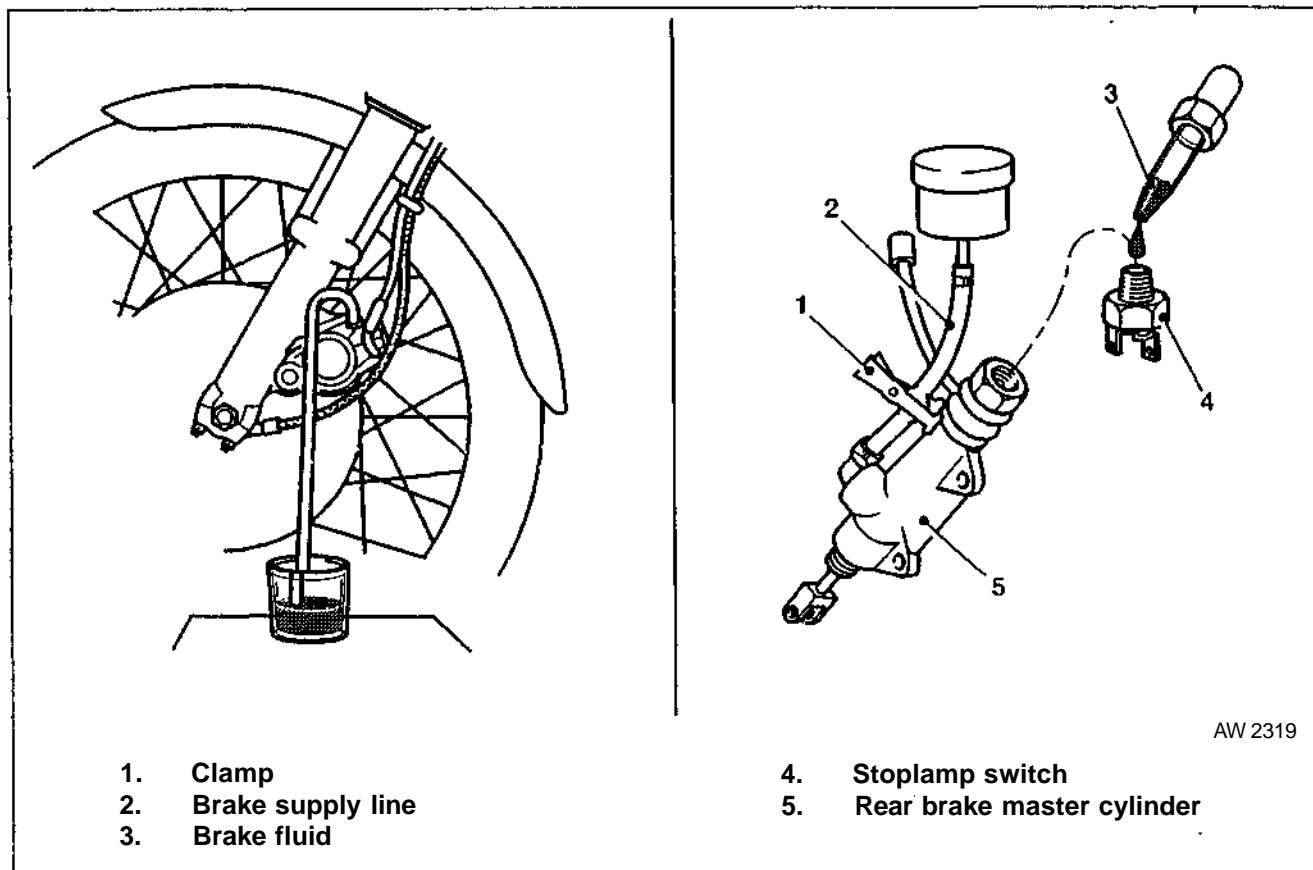

Fig 12.4 Bleeding Brakes (Typical)
- a. Fig 12.4 refers. Slip a length of appropriate size clear plastic tubing over wheel cylinder bleeder valve with other end in a clean container. Turn handlebars so that bleeder valve is nearly vertical.
1. See Fig 12.4. Clamp supply line.